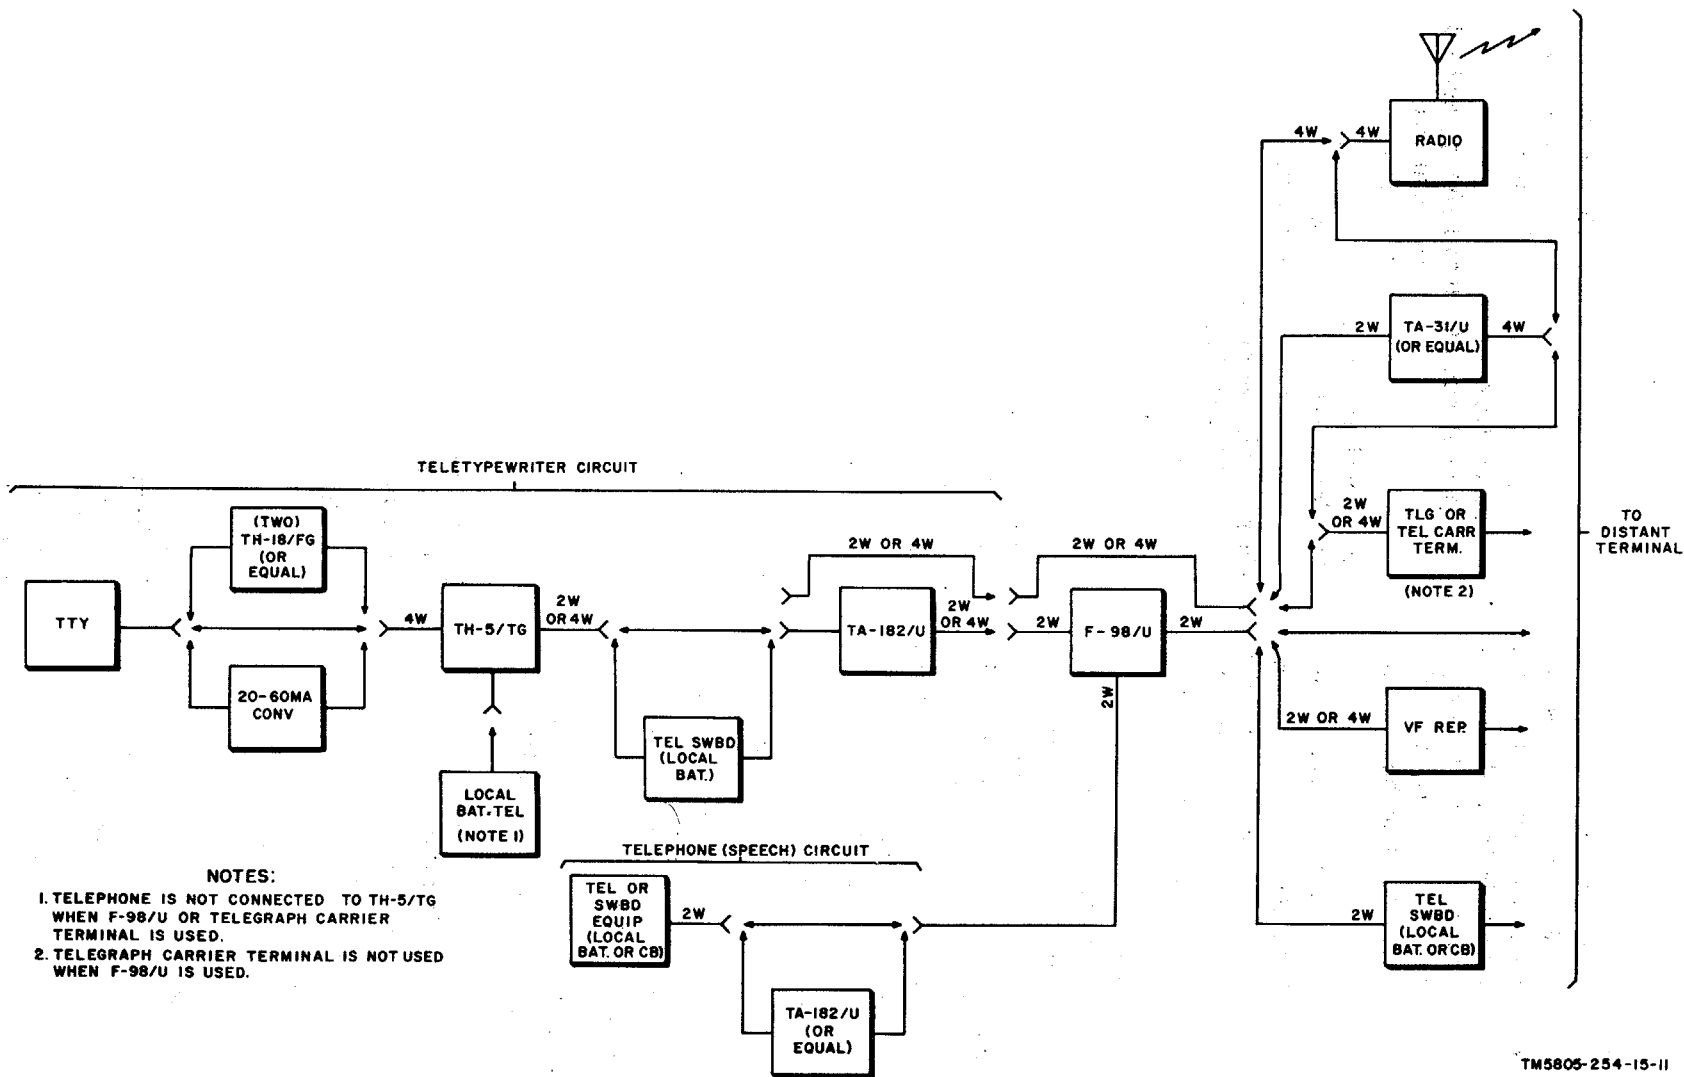

Figure 4. System terminal arrangements using components of AN/TCC-14.
- a. Figure 4 shows some of the system configurations in which the components of the AN/TCC-14 can be used.
- (1) The teletypewriter is normally connected directly to the TH-5/TG. If the loop current of the TH-5/TG exceeds certain limits (para. 4a), however, a dc repeater (such as Telegraph Repeater TH-18/TG) can be used between the teletypewriter equipment and the TH-5/TG. If the teletypewriter receiving equipment is restricted to operation with 60 milliamperes (ma), a 60- to 20-ma converter can be inserted in the line between the teletypewriter equipment and the TH-5/TG.
- (2) A local battery telephone can be connected to the TH-5/TG for speech communication when using a two wire line from the TH-5/TG and provided that neither the F-98/U nor a telegraph carrier terminal is used in the system.
- (3) The TA-182/U is used in either (or both) the teletypewriter or telephone circuit when the interconnecting equipment cannot pass 20-cps ringing signals; for example, when radio or carrier terminals are used in the system.
- (4) The F-98/U is used to combine the teletypewriter (of telegraph signals) and a telephone circuit (speech signals) over a two-wire communication system. Such a system may be radio (through Hybrid Circuit Network TA-31/U, or equal), telephone carrier terminal, of repeater, or telephone switchboard.